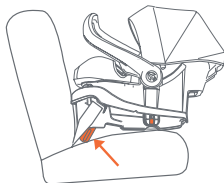

Fig. 51-4
- If the Seat Angle Indicator bubble level (4-22 lb.) is not centered or level line (23-35 lb.) is not parallel with the ground, extend the elevation foot, **See section 7.5 To Deploy Elevation Foot**, under the front of the base at the foot end to achieve the correct position (Fig. 51-4). If the correct elevation can not be achieved see section 7.5 Elevation Aids. Re-tighten the vehicle seat belt as instructed in section, securing the Safety Seat or Base in the Vehicle. Recheck seat angle indicator after child is placed in safety seat and readjust if necessary.